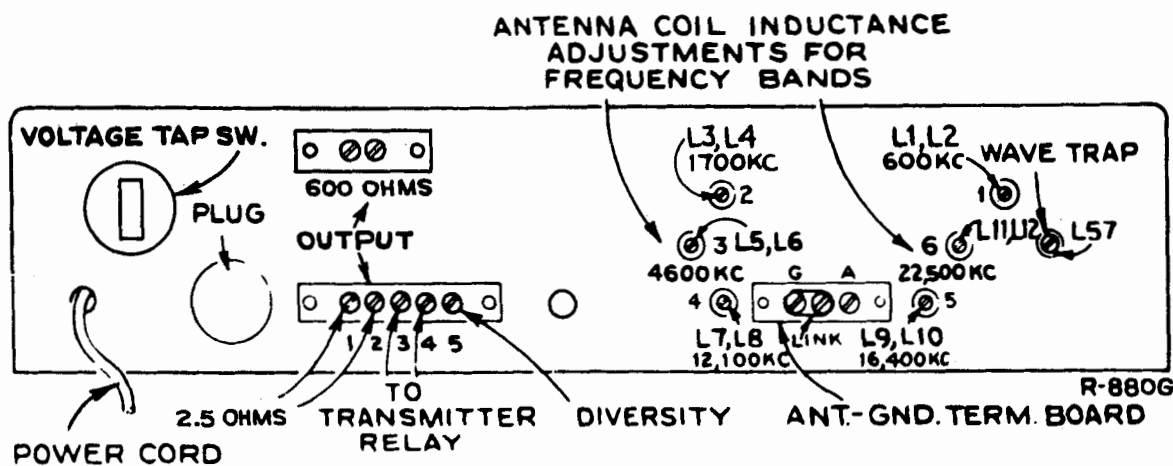

Figure 2—Diagram of Rear of Chassis
The antenna terminal board is provided with three terminals (see Figures 2 and 6), two of which may be joined together with a link. When a single wire antenna is used, the link should be closed and the antenna connected to "A." If a ground is used, it should be connected to "G." If a transmission line or balanced input is used, the link should be opened and the line connected to terminal "A" and the center terminal.
Power Pack — The power pack mounted on the receiver chassis consists of a power transformer, rectifier tube RCA-5Y3GT, and filter. A tap switch is provided on the rear apron for changing the power transformer voltage tap. (See Figures 2 and 6.) The voltage for which the switch is set may be read directly on the switch. The instrument may also be operated from 6V. "A" and 250 to 300 V. "B" batteries, or Vibrator Power Supply Unit MI-8319.
Speaker—Terminals for connection of a loud-speaker are indicated in Figures 2 and 6. The output transformer is designed to match a speaker having 2.5 ohms impedance.
2. Transmit position which gives energized tube filaments, open plate circuits, and shorted terminals for transmitter relay on the speaker terminal board on the back of the chassis. Connect relay to these two terminals for transmitter operation. See Figure 2.
Diversity Reception — Connect together the terminals marked "diversity," Figure 2, on two or three of these receivers, and equip each receiver with a separate antenna. The "diversity" terminal is connected inside the receiver to the AVC circuits. Tune as explained.